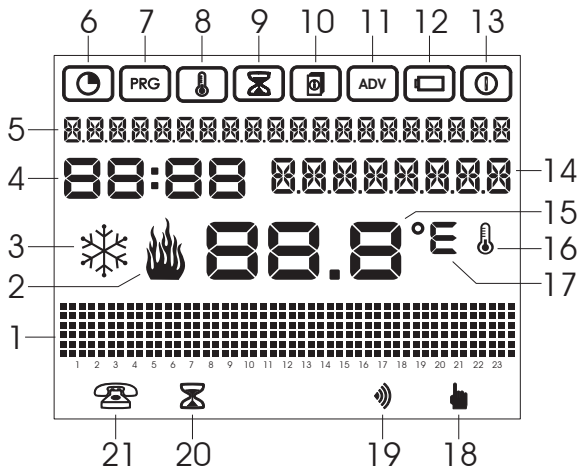

Figure 1
The following information is shown on the LCD screen (Figure 1):
- Using the  $\Delta$  and  $\nabla$  keys from the main page, additional information can be displayed for the current zone. Pressing the key  $\Delta$  in field 14 (see Figure 1), will display the current zone name (if is configured, otherwise the "zone ..." message is displayed).